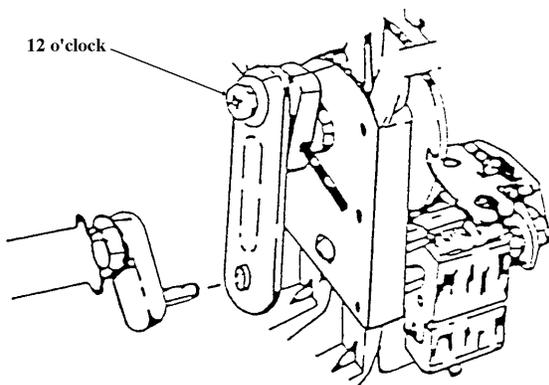
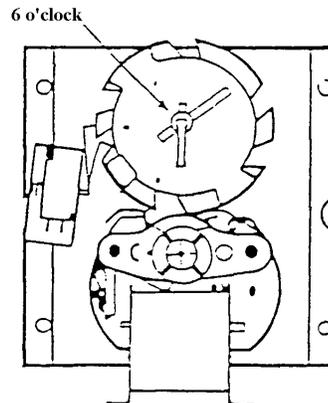

Fig. 10
Fig. 11
1. Make sure the hole through the rear shaft is in a horizontal plane. (If a pin were inserted in the hole, the pin would be horizontal). See Fig. 10.
2. Slide the Drive Arm (with linkage attached) on the rear shaft as shown. See Fig. 10.
6. Install the Vending Cam on the front shaft of the Motor making sure that the Lock Tab is at 6 o'clock as shown. See Fig. 11.
NOTE: When the screw holding the Linkage Arm to the Drive Arm is at the 12 o'clock position (See Fig. 10), the Lock Tab will be at the 6 o'clock position (See Fig. 11).